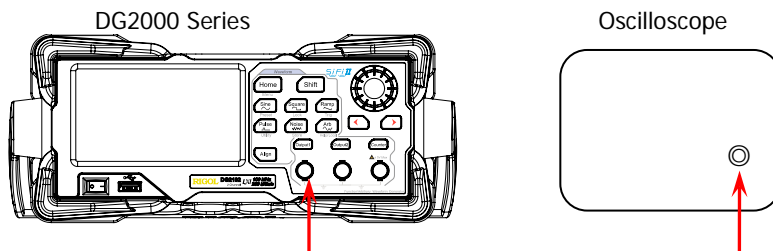

Figure 2-5 Connect DG2000 and the Oscilloscope
1. Make sure that the environment temperature is between 18°C and 28°C and DG2000 has been warmed up for at least 30 minutes. Connect the channel output terminal (take CH1 as an example; the test method is also applicable to CH2) of DG2000 with the signal input terminal of the oscilloscope using a dual-BNC connecting cable as shown in Figure 2-5.
- Make sure that the environment temperature is between 18°C and 28°C and DG2000 has been warmed up for at least 30 minutes. Connect the channel output terminal (take CH1 as an example; the test method is also applicable to CH2) of DG2000 with the signal input terminal of the oscilloscope using a dual-BNC connecting cable as shown in Figure 2-5.